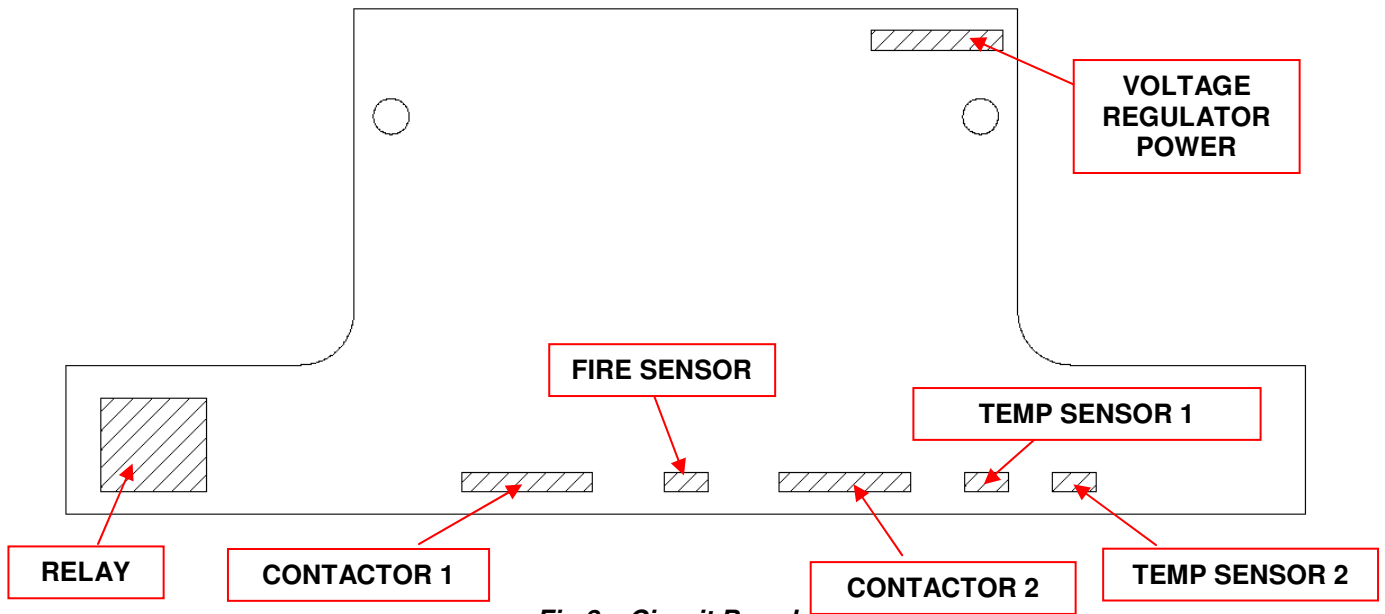

Fig 8 – Circuit Board
- b. Identify the harnesses on the circuit board before disconnecting. See Fig 8 and 9. Disconnect wires after identification.